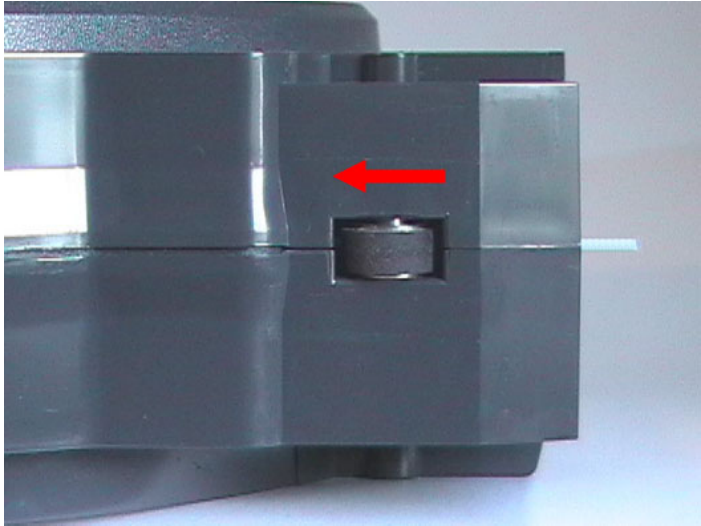

Figure 6. Direction to Move Cartridge Roller
**Be careful when touching the pinch roller on the side of the cartridge. If you roll it backwards, you can inadvertently draw the material into the cartridge (refer to Figure 6 on page 25 for the correct direction to move the cartridge roller).**